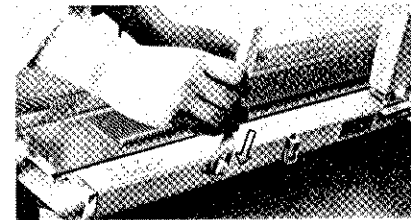

Fig. 19
- a. Take the set lever out of accessory box and fit onto the shaft of the setter located at the rear right of the needle bed. (See Fig. 19)